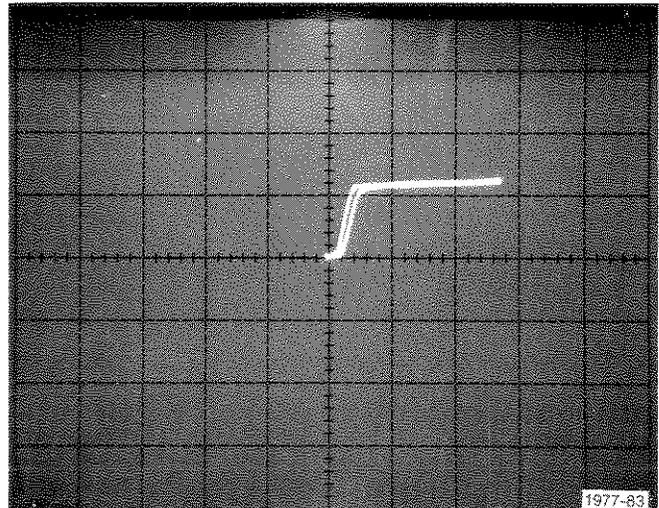

Fig. H-4. Measurement of positive supply current.
a. Press the DISPLAY—ZERO pushbutton. Turn the SWEEP AMPLITUDE control until the trace reaches screen center (see Fig. H-4).